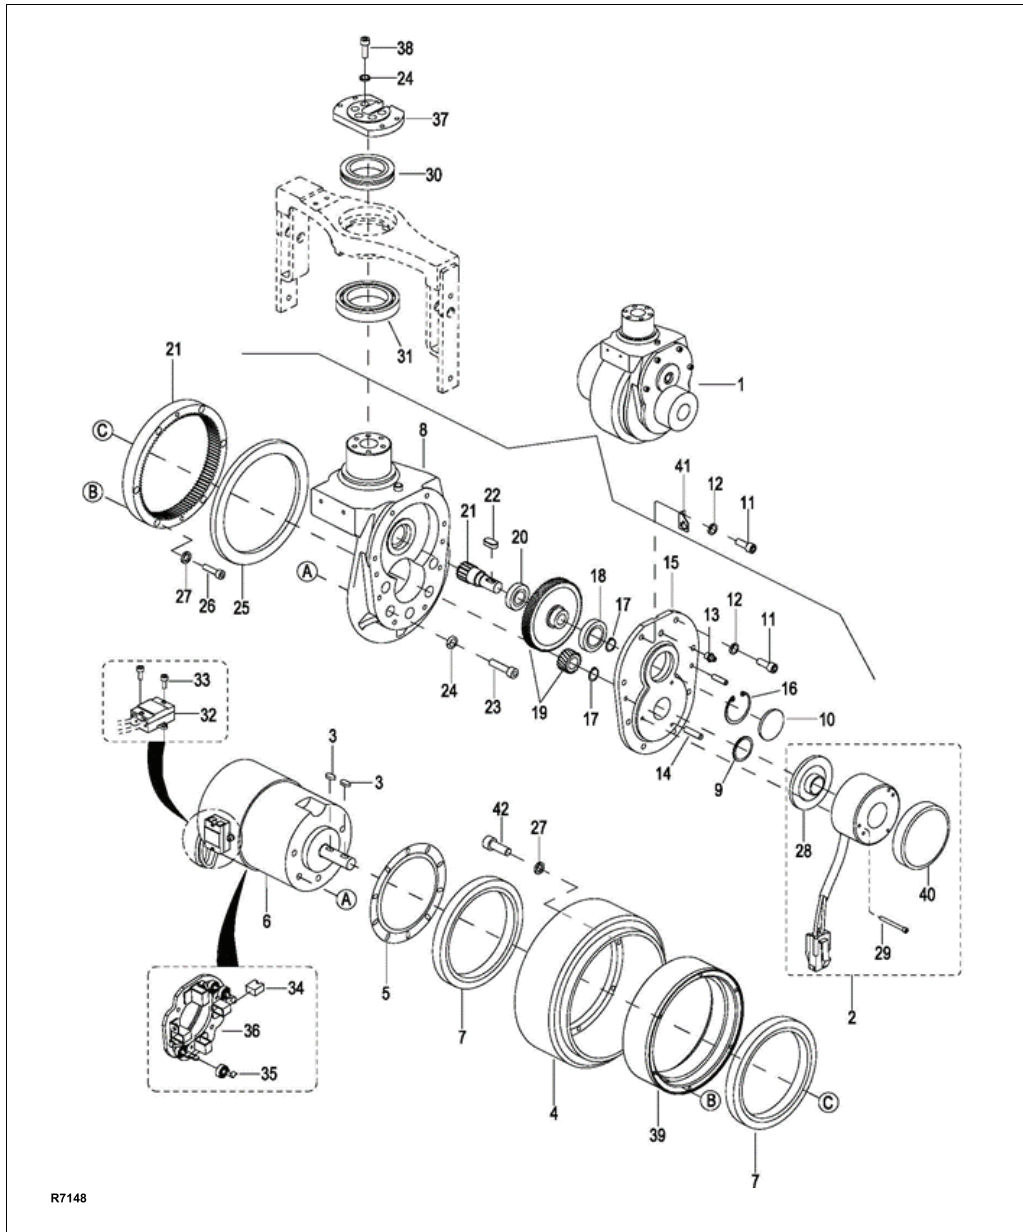

Figure 6-1 Transmission, Motor, Brake Mounting
3. Disconnect electric brake (2, Figure 6-1) from harness (1, Figure 12-11).
4. Remove the three mounting screws (29, Figure 6-1) and the brake.